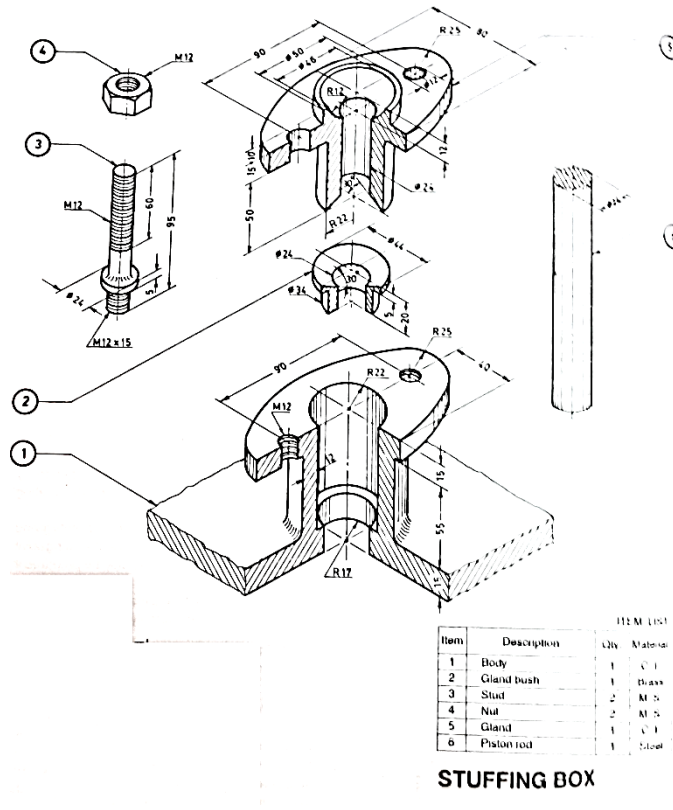

Figure A.1. Stuffing Box
11. Draw the right half sectional elevation and plan view of assembled stuffing box. Refer figure A.1